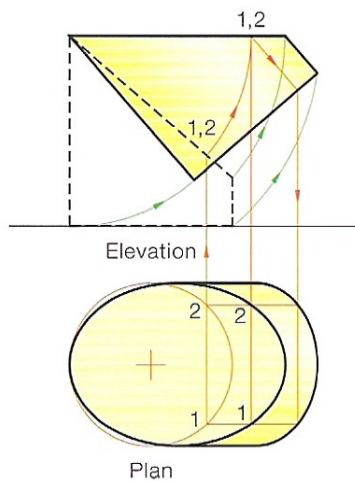

Fig. 5.19
- (1) Draw the elevation and plan.
- (2) Rotate the top surface until it is level.
- (3) Build up the elevation by rotating the rest of the corners.
- (4) Choose any point on the original circular plan, e.g. points 1 and 2. Project points 1 and 2 to the cut surface of the original elevation.
- (5) Rotate points 1 and 2 onto the horizontal surface.
- (6) Project down and then across from the plan.
- (7) Repeat with other points on the original circle to build up the shape of the cut surface, Fig. 5.19.